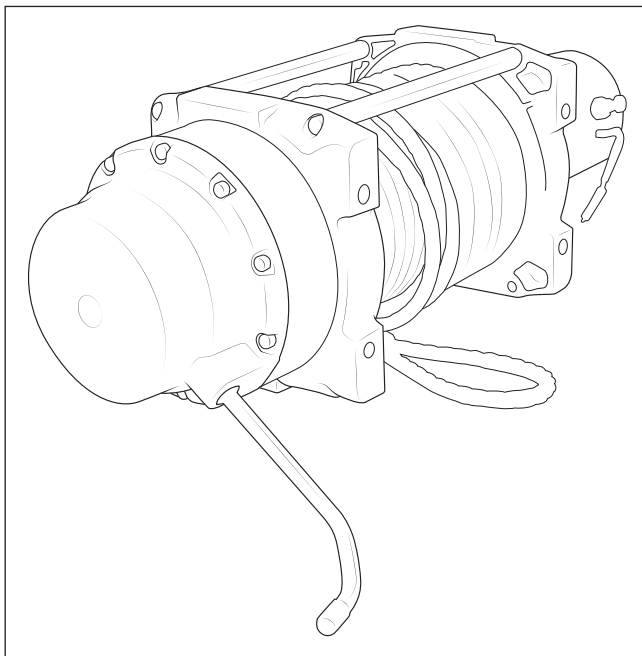

Figure 5
7. Install the solenoid bracket to the bumper with the supplied M6 x 20 bolts, nuts, and flat washers (fig. 5).
8. Place the winch upside down. This will be the new orientation in the bumper (fig. 5).